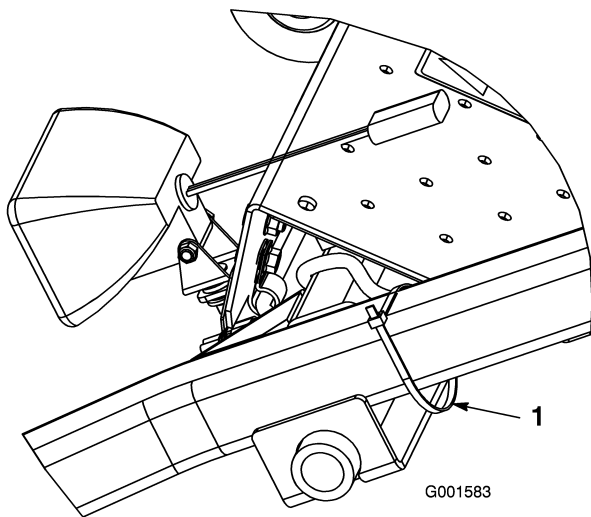

Figure 19
5. Secure the light kit wire harness to the frame with 2 cable ties, one near the left front light (Figure 19) and the other toward the control panel.